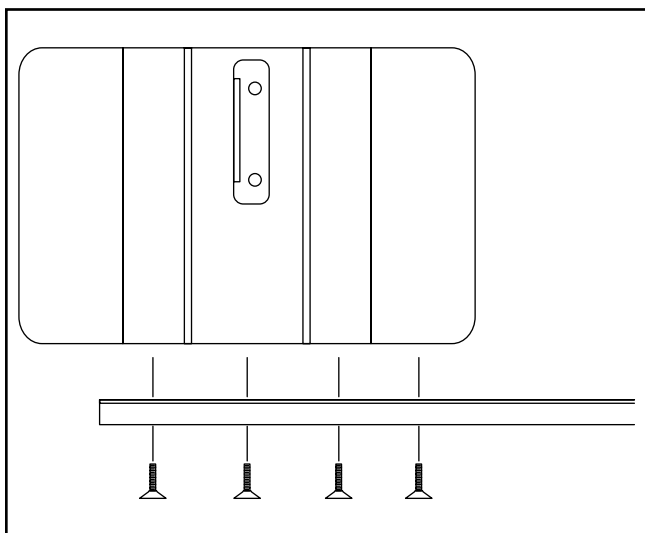

Figure 10. Front rail attachment procedure.
3. Attach the front rail to the table top using the hex socket flathead screws as shown in **Figure 10**. Place an adjustable square on the edge of the table, and adjust the rail so it is consistently $\frac{25}{32}$ " below the top of the table.